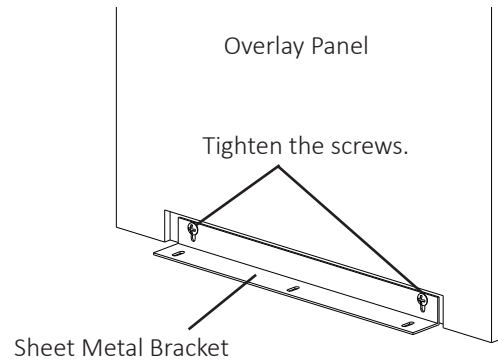

Fig. 16
- 4) Remove the overlay panel from the door and tighten the two M4x8 truss head screws securing the sheet metal bracket to the overlay panel (See Fig. 16).